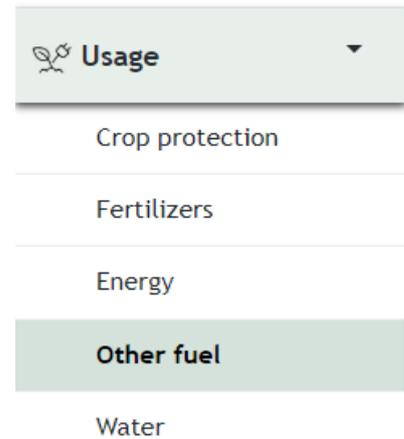

Figure 11
1. Click on 'Usage' in the menu and then on 'Other Fuel' (see figure 11).